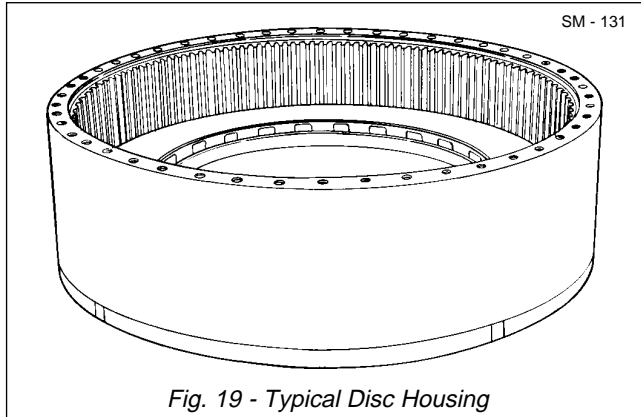
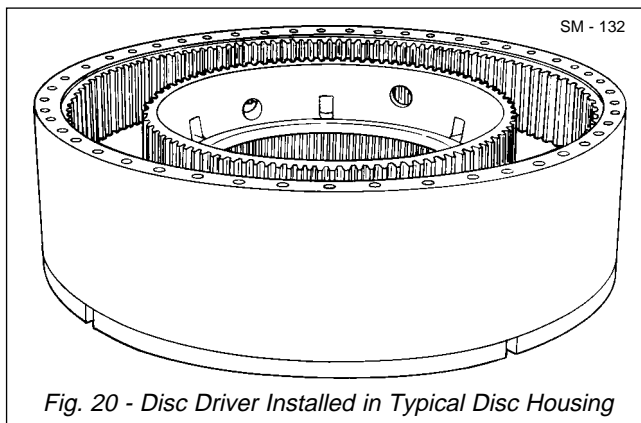

Fig. 19 - Typical Disc Housing
Fig. 20 - Disc Driver Installed in Typical Disc Housing
15. With a suitable lifting device, turn disc housing (25) over and place on a clean flat surface, spring housing (14) side down. See Fig. 19.
16. If removed, install dowels (26) in disc housing (25).
17. With a suitable lifting device attached to disc driver (27), position disc driver inside disc housing (25), with large splined end up. See Fig. 20. Block up disc driver with 50 mm x 100 mm (2 in x 4 in) blocks.